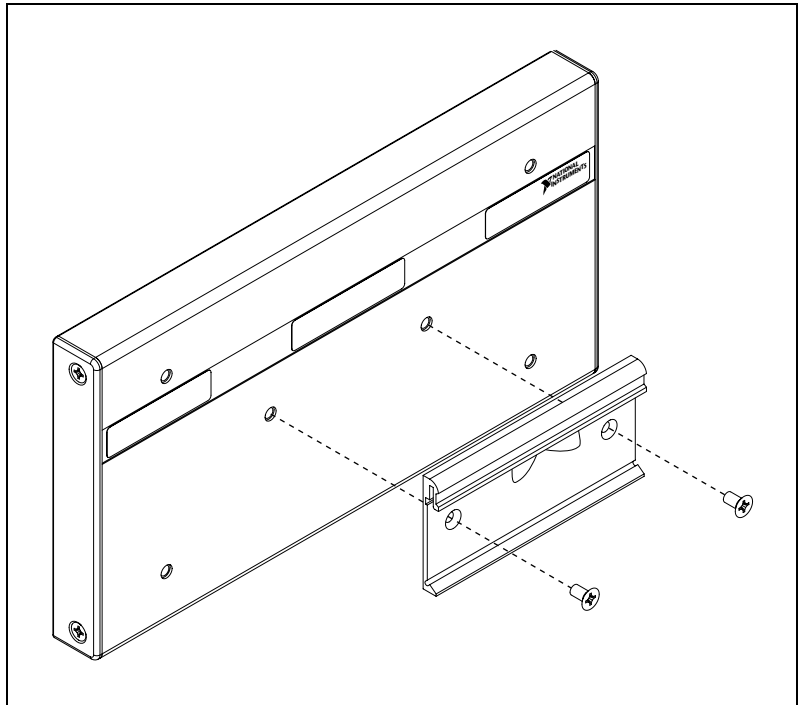

Figure 2-10. Fastening the DIN Rail Clip to the cFP-BP-4 Backplane
1. Fasten the DIN rail clip to the cFP-BP-4 using a number 2 Phillips screwdriver and the 8-32 \times 5/16 in. countersink screws shipped with the DIN rail clip(s). These screws have a nylon coating to prevent them from loosening. Refer to Figure 2-10.